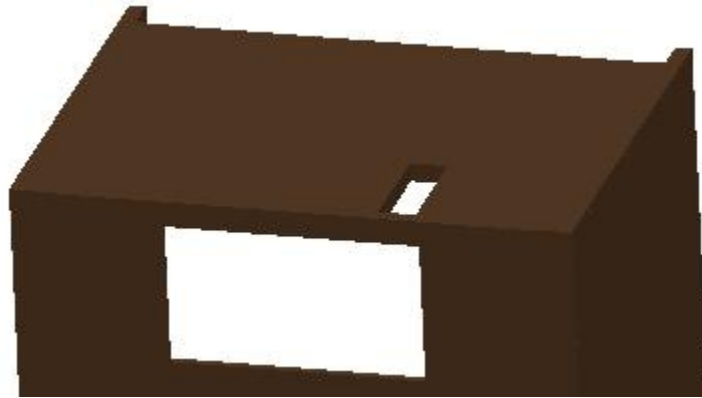

Fig. 2.2 Additional Top Cutouts
- If it is a top exhaust installation, make an additional rectangular hole on the top wall of the cabinet with the same length and width of the top air exhaust as shown in Fig. 2.2.